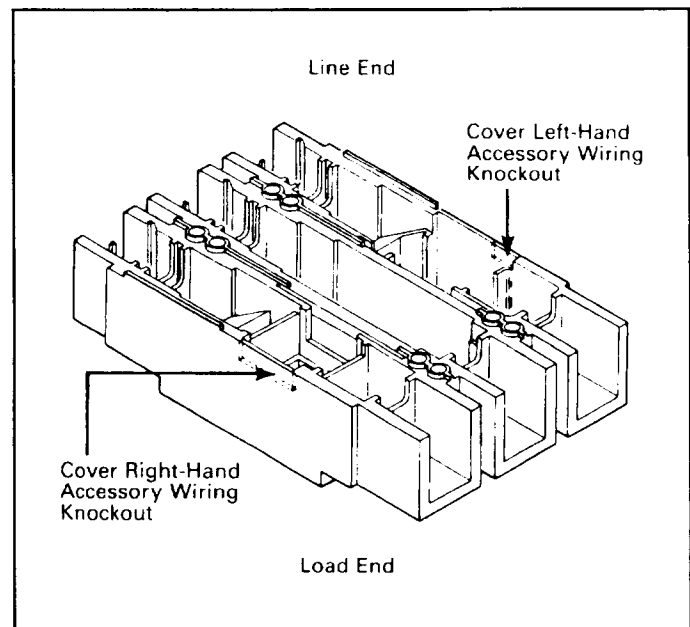

Fig. 2-2 Location of Accessory Wiring Knockout in Cover
- 2-4. Locate knockout (Fig. 2-2) provided in right side of cover for accessory wiring. Remove knockout and file rough edges smooth.